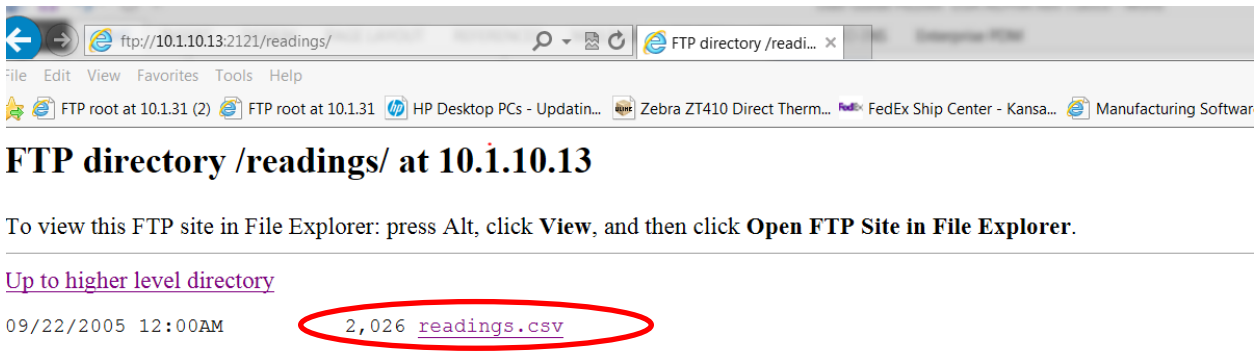

Figure 37
j) At this next screen (Figure 37) select “readings.” You will be prompted to save the readings in a location of your choice (.csv file format). You can open the file at this time or just save it.